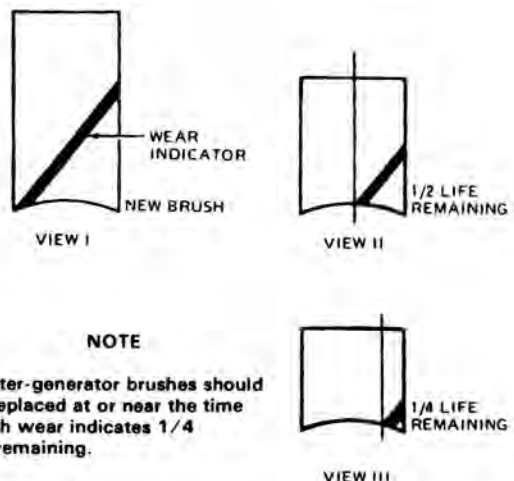

Figure 96-2. Starter/Generator Brush Wear
96.3.15.2 Replace brushes when the overall length is less than 0.79 inches. This is indicated when the diagonal line extends less than one third of the length across the brush. (Refer to Figure 96-2).